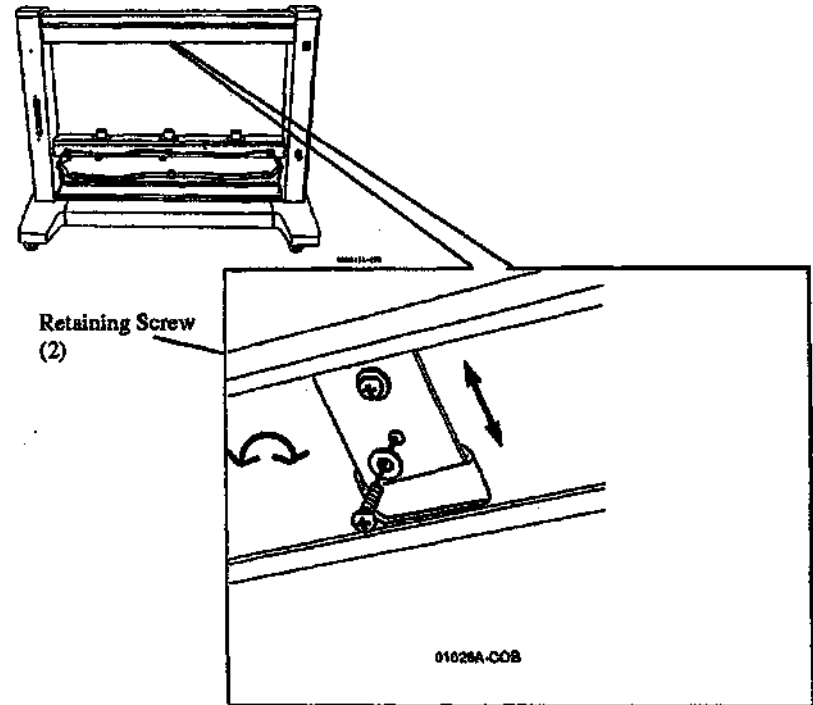

Figure 1. Edge Present Sensor - Bracket
2. (Figure 1) Loosen the two retaining screws.